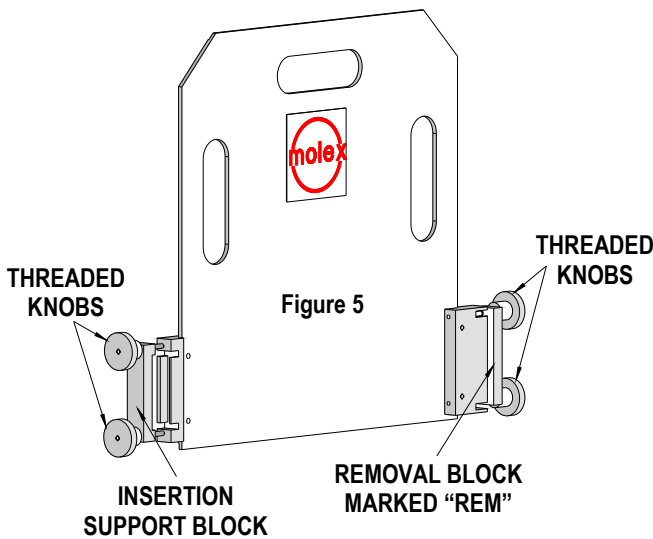

Figure 5
4. Remove the two (2) threaded knobs and the removal block marked "REM" from the repair fixture. See Figure 5.